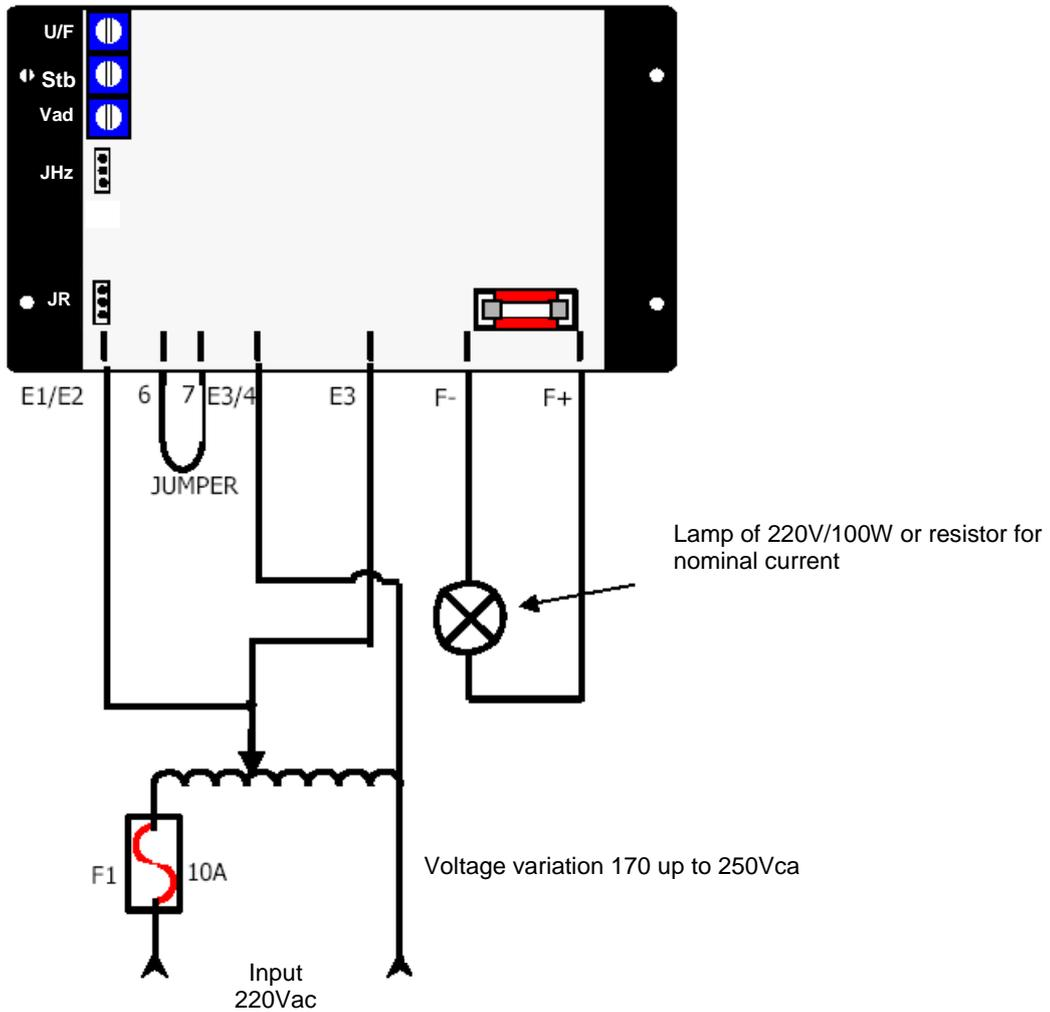

Figure 16.1: Conexión del regulador sin generador.
1. The lamp voltage must be the same voltage applied on the input. The Figure 16.1 shows an example using a 220V/100W lamp.